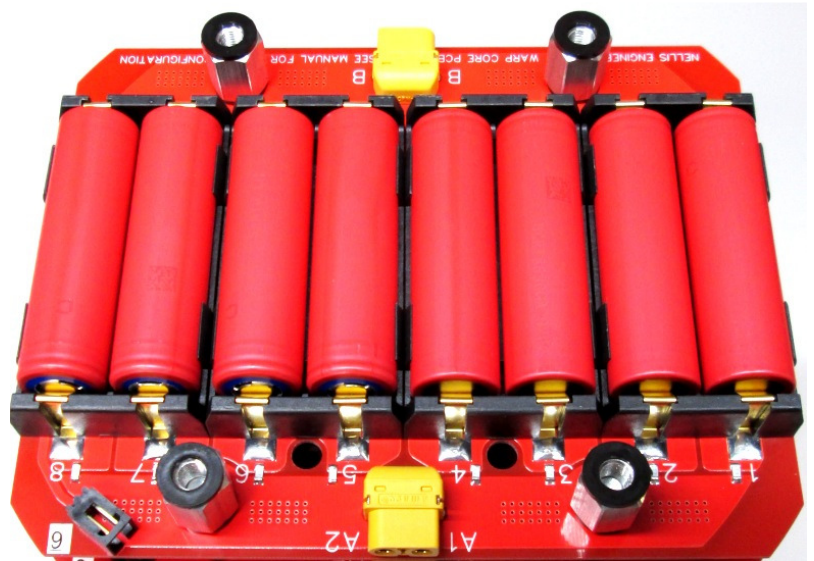

Figure 26
19. Place 4 black plastic 1/16" (1.6mm) thick washers, one on each threaded spacer as shown in Figure 26.